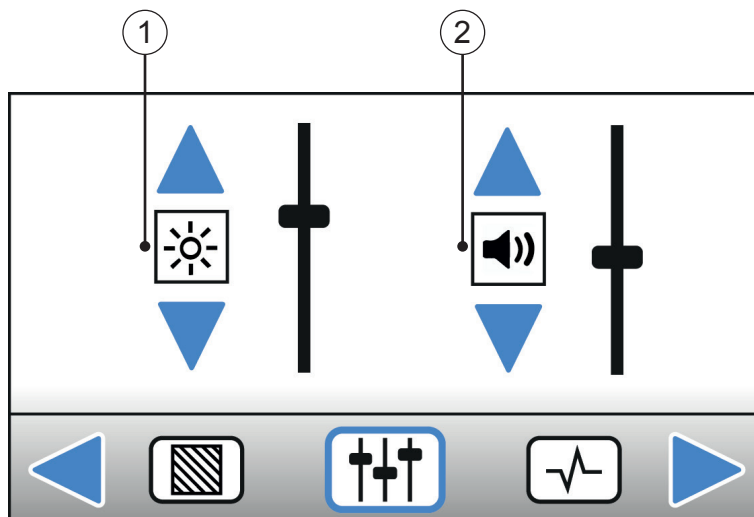

Fig.1
3.6 - BRIGHTNESS / SOUND (Fig. 1 and 2)